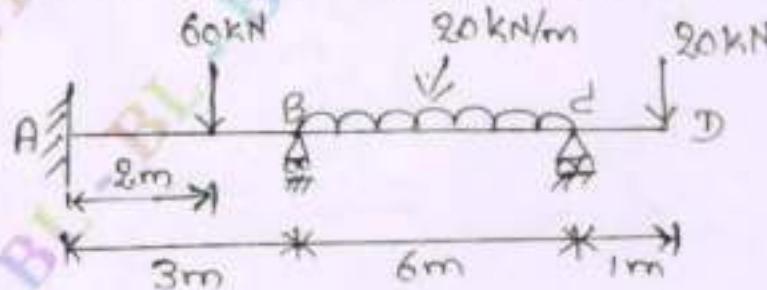

Fig. Q3
- 3 Analyze the continuous beam shown in Fig. Q3 by moment distribution method, if support B yields by 9 mm. Take $EI = 1 \times 10^{12} \text{ N.mm}^2$ throughout. Draw BMD and SFD.